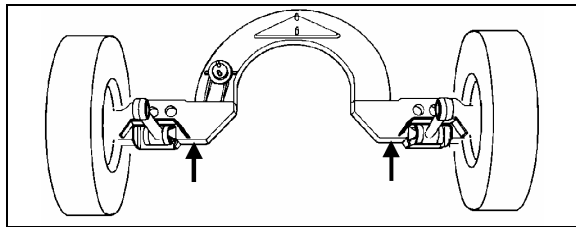

FIGURE 10: JACKING POINTS ON TAG AXLE 11023
3. Install jacks under tag axle jacking points to support the axle weight (refer to figure 10).